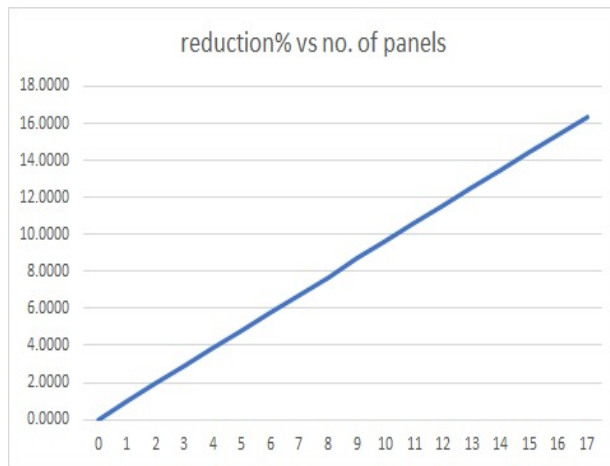

Fig. 3
2. A linear relationship is observed between the ‘Number of panels’ and the ‘Annual Cost Reduction%’(Ref. Fig.3).